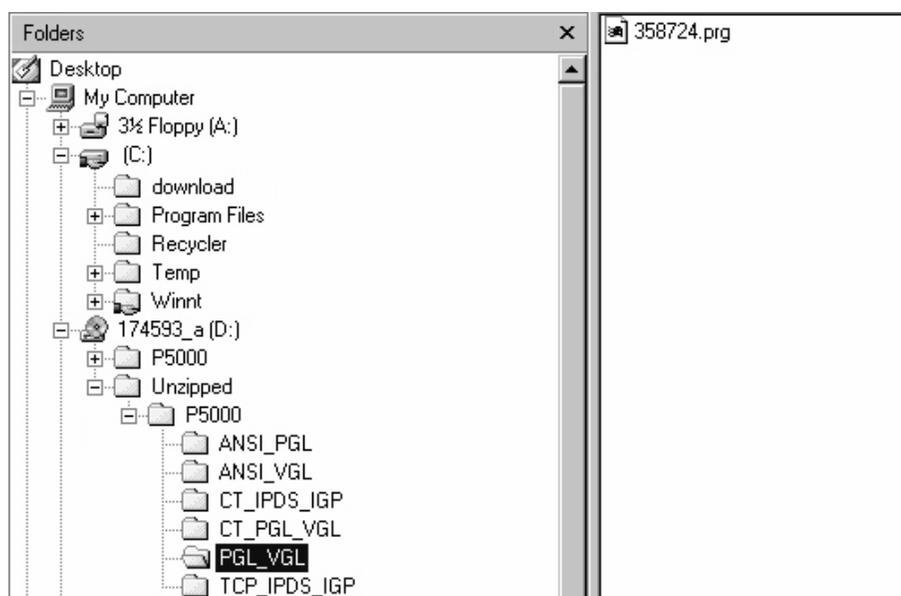

Figure 20. Navigating to the Appropriate Emulation File on the CD
9. Using Windows Explorer, navigate to the appropriate file on the CD (using the Unzipped directory) based on the printer type, model number, and desired emulation, e.g., Unzipped ▶ P5000 ▶ PGL_VGL. (See Figure 20.)